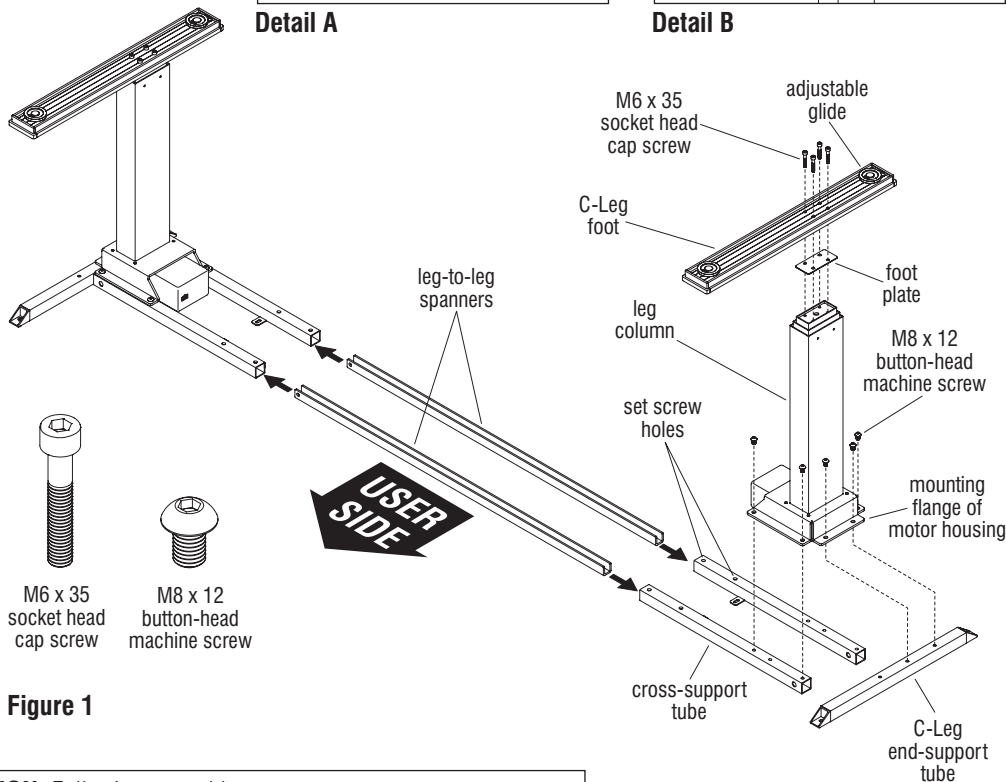

Figure 1
1. Carefully remove contents from packaging, set out on a soft, clean surface and refer to Figure 1 to identify the parts required for assembly.
2. Position the two cross-support tubes (with mounting tabs facing down and facing inwards), and one C-leg end support tube out as illustrated. Place a leg column assembly over the three support tubes and align six mounting holes of the leg column with appropriate mounting holes of the three tubes as illustrated. The C-leg end support tube contains three mounting holes but only the two non-user side holes can be used. Make sure the tube has the longer end and one unused mounting hole, facing the user side as illustrated (Detail A). Using six M8 x 12 button head machine screws torqued to 9.5 ft/lb, secure the flange of the leg column to the three support tubes (Figure 1).
3. Assemble the C-leg foot to the leg column by first positioning a plastic foot plate over the mounting location on the leg column. The foot plate must be oriented so the raised flange faces into the column, to nest the foot plate into place. Next, position a foot over the foot plate and leg column as illustrated, with the mounting holes of the foot aligning with those of the leg column. It is important that the longer end of the C-leg foot face the user side. Once foot is correctly oriented, secure the foot to the leg column with four M6 x 35 socket head cap screws. Torque to 7.5 ft/lb (Figure 1).
5. Repeat steps 2 & 3 for second leg assembly and step 4 if casters are required (Figure 1).
6. Position two leg-to-leg spanners with channel opening face up, then slide both spanners into the open ends of each base tube of both base assemblies. Slide bases together, but do not secure with set screws at this time (Figure 1).